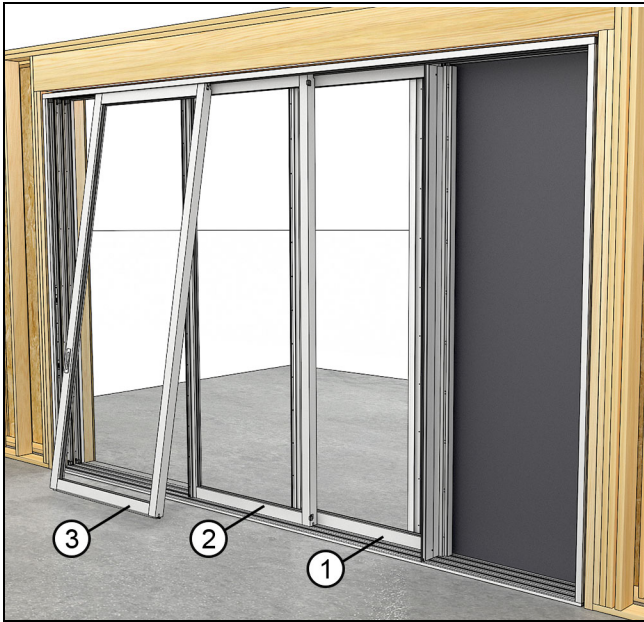

Figure 86
3. Install the primary operating panels last. Make sure each panel overlaps the previously installed panel so that the interlocks can engage with one another. See Figure 86